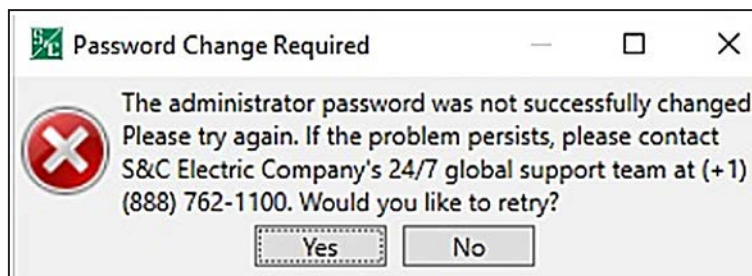

Figure 40. The Password Change Required dialog box.
STEP 4. When the password was not successfully changed, the Password Change Required dialog box opens. See Figure 40. Click on the **Yes** button to change the password again and go back to Step 2 on page 94.